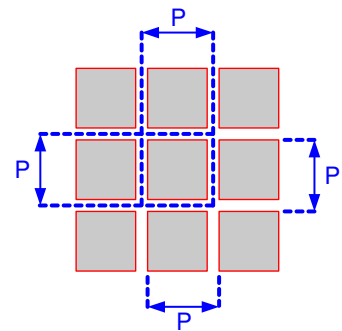

Figure 6-8. Micromirror Array Physical Characteristics
(1) See Figure 6-8.
(2) The structure and qualities of the border around the active array includes a band of partially functional micromirrors called the "Pond Of Mirrors" (POM). These micromirrors are structurally and/or electrically prevented from tilting toward the bright or "on" state but still require an electrical bias to tilt toward "off."